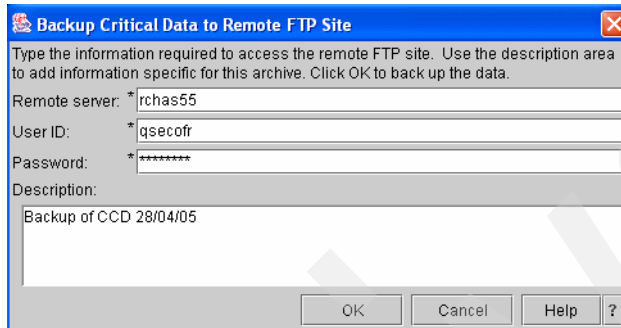

Figure 14-6 Backup of CCD to i5/OS
5. Enter the host name/IP address of the i5/OS system, along with a valid i5/OS user id and password. You may also enter a useful text description for the backup in the window provided. The backup file will be stored in the home directory of the i5/OS user id entered here. Figure 14-6 shows an example of this.